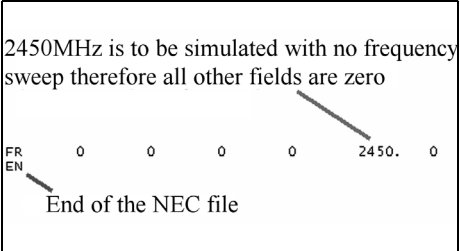

Fig 8: There is no frequency sweep, the frequency is set to 2450MHz.
- ... the conclusion (Fig 8), the indication of frequency as well as marking the end of the NEC file.